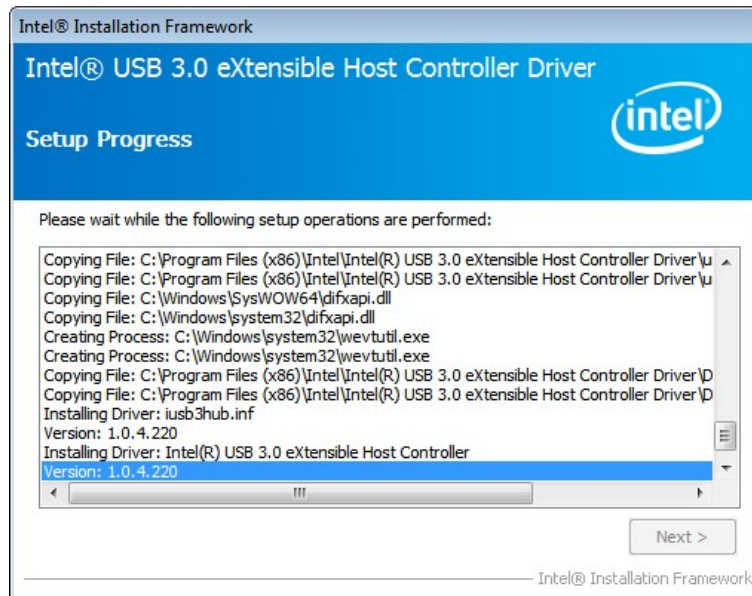

Figure 6-22: USB 3.0 Driver Setup Operations
Step 11: Setup Operations are performed as shown in Figure 6-22.